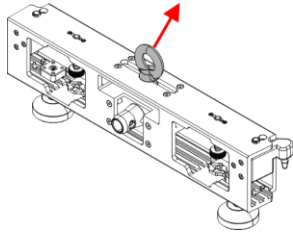

Fig. 26
01) Remove the rigging eye(s) from the top of a rigging bar, as shown in Fig. 26.